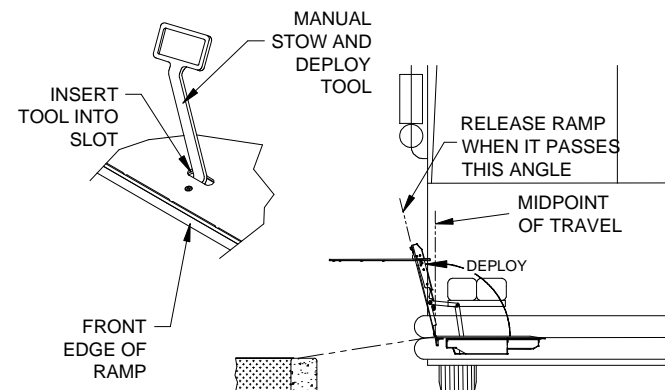

FIGURE 3-4: RAMP MIDPOINT DURING MANUAL DEPLOY
- 1) Refer to **Figure 3-4**. Grasp manual handle or lifting strap on front edge of ramp. If ramp uses a manual stow/deploy tool, insert tool into slot on front edge of ramp.